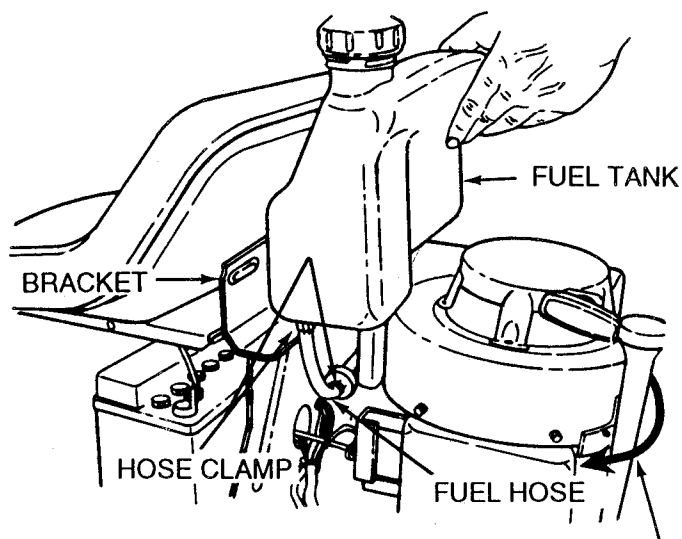

Figure 4 - INSTALLING FUEL TANK 16 HP FUEL LINE ROUTE
**STEP 6:** Install the fuel tank by snapping the tank (as shown in Figure 4 DOWN into the tank bracket. The two front grooves and long rear groove found on tank will receive the embossed corresponding areas (formed in the seat bracket) and will secure the fuel tank in the proper position. Slip a clamp on the end of the fuel line, connect the line to the tank fitting, and then move the clamp up to the fitting to secure the connection. **NOTE:** On 16 HP Briggs engines route fuel line from carburetor around the rear of engine to the left side (sitting in operator's position) and connect to tank and secure with clamp. **CAUTION:** Do not route fuel line over or near exhaust manifold or muffler as it could cause serious injury by fire.